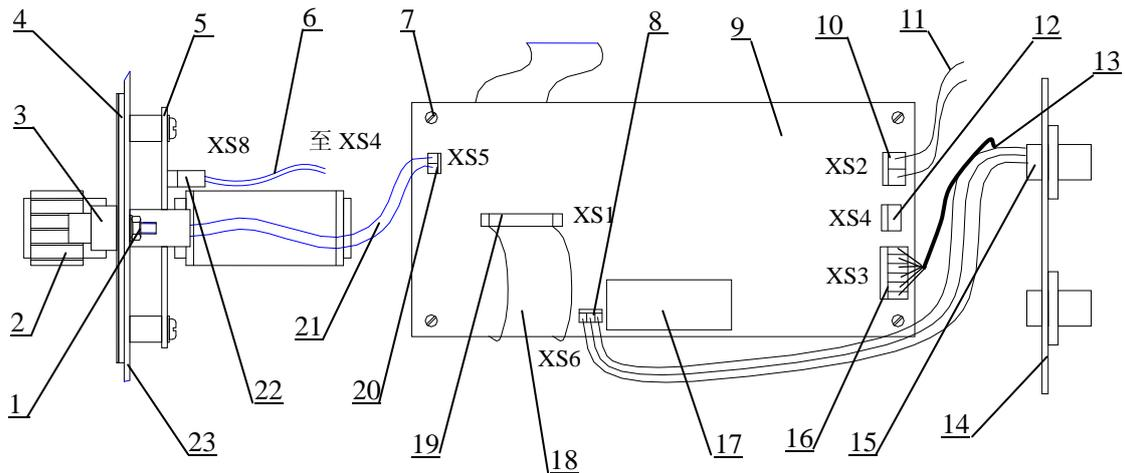

Figure 7-6 GC1120-TCD current regulator installation sketch (part, plan)
- 7) Cover the side board of the electrical box. Fasten the two screws at the bottom of the side board of the electrical box with a screwdriver. Installation of the TCD current regulator completes. Please refer to Figure 7-6.